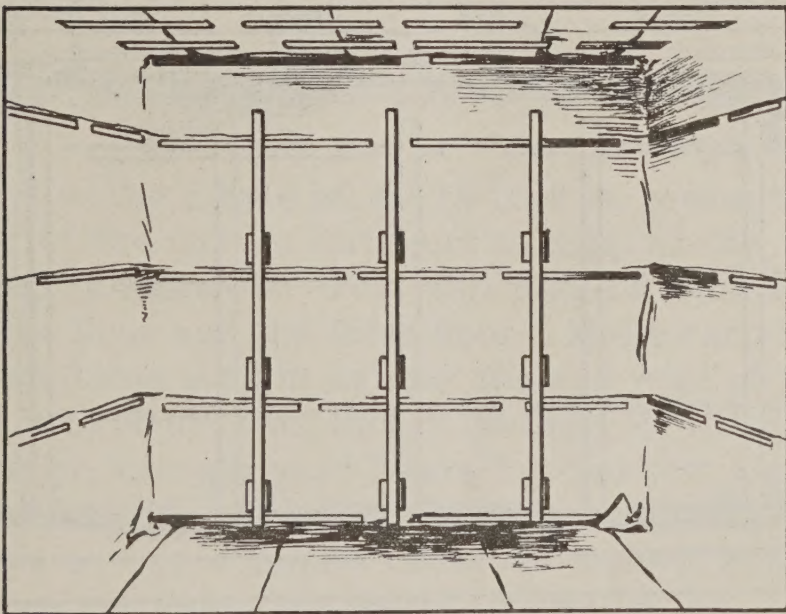

FIG. 4.—False end wall studding in place.
4. Spike 3 of the 2 by 4 in. by 7 ft. pieces to the blocks as illustrated in figure 4. This will make a 6-inch space between the car end wall and the false end wall.
4. Spike 3 pieces of 2 by 4 in. studding to the blocks as illustrated in figure 4. This will make a 6-inch space between the car end wall and the false end wall. The studding should extend from the floor to about 8 inches from the ceiling.